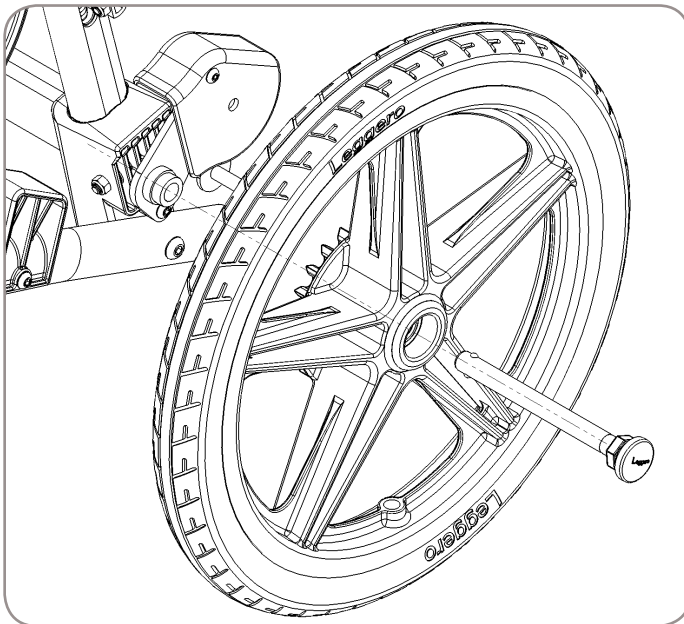

Figure 2
4. Install rear wheels, reference Figure 2.